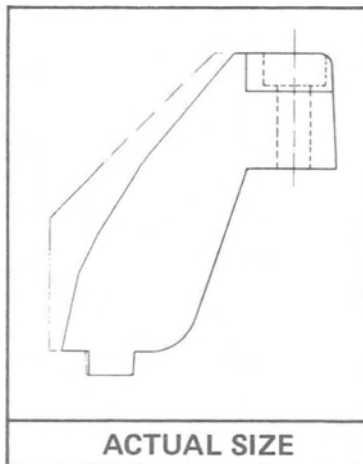

Figure 2. D-74857A1 Drive Clutch Ramp Profile (Trail Ramp for 1975 340 S/T & 440 S/T)
(1) Optional Clutch Ramps (D-74857A1, Figure 2) are available for trail riding.
(2) A few 1976 Model 340 S/T snowmobiles were shipped from the factory with INCORRECT drive clutch weights. Weights stamped 0146-135 (D-71737) MUST BE INSTALLED in these clutches.